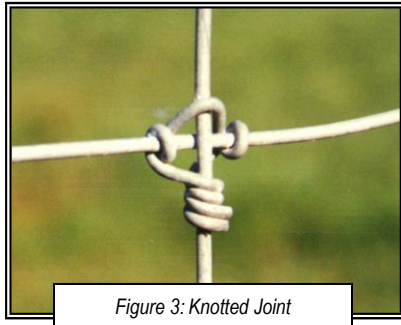
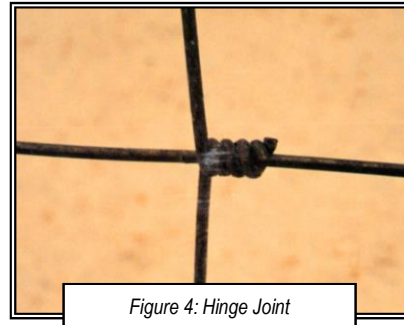

Figure 3: Knotted Joint
Figure 4: Hinge Joint
- a. Knots: There are two types of knots, the knotted joint (**Figure 3**) or the hinge joint (**Figure 4**). These knots tie together the vertical and horizontal wires.